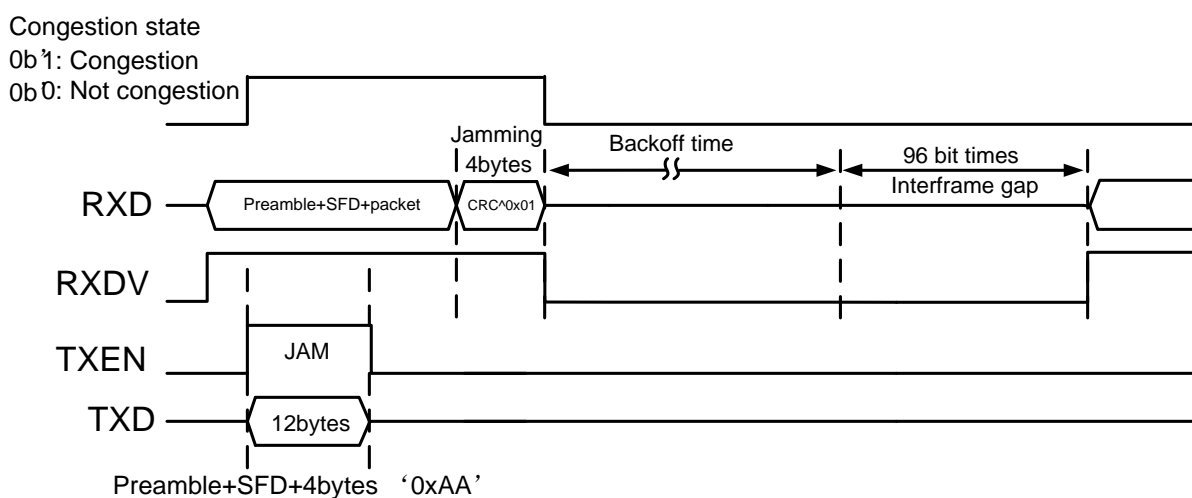

Figure 3. Collision-Based Back Pressure Signal Timing
- The link partner waits for a random back-off time then re-sends the packet. The timing is shown in Figure 3